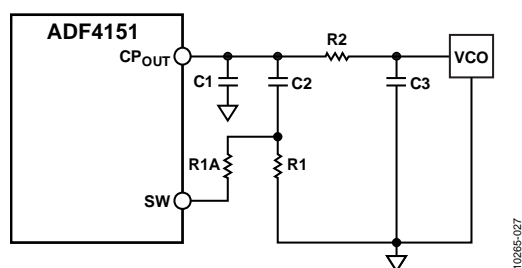

Figure 27. Fast Lock Loop Filter Topology—Topology 2
- An extra resistor (R1A) is connected directly from SW, as shown in Figure 27. The extra resistor is calculated such that the parallel combination of an extra resistor and the damping resistor (R1) is reduced to $\frac{1}{4}$ of the original value of R1 (see Figure 27).